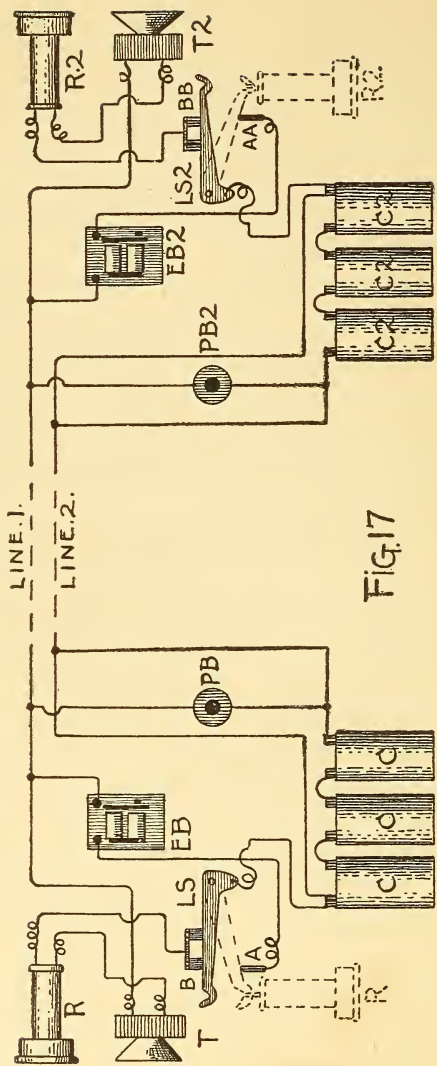

FIG. 17
A view looking down on this lever and bracket is shown at Fig. 15. A is the bracket, B the lever, and E the screw or bolt holding the two parts together, with a thin copper washer between them to prevent friction. When the lever and bracket are made fast to the box, a spring (D) should be arranged, so that when the receiver is removed from the hook the lever will be drawn up to the top of the slot. A small contact-plate (F) is made of brass, and fastened at the lower end of the slot. On this the lever should rest when the receiver is on the hook. A contact-wire is soldered to this plate, which in turn is screwed fast to the inside of the box. This mechanism is part of a make-and-break switch to cut out and cut in the bells or telephone, and will be more clearly understood by referring to the diagram in Fig. 17. At the right side of the box a small push-button is made fast, and this, with two binding-posts at the top and four at the underside of the box, will complete the exterior equipment of one end of a line.
Fig. 17 shows the wiring system for this outfit, which, when properly set up and connected, should operate on a circuit or line several miles in length, provided that the batteries are strong enough.